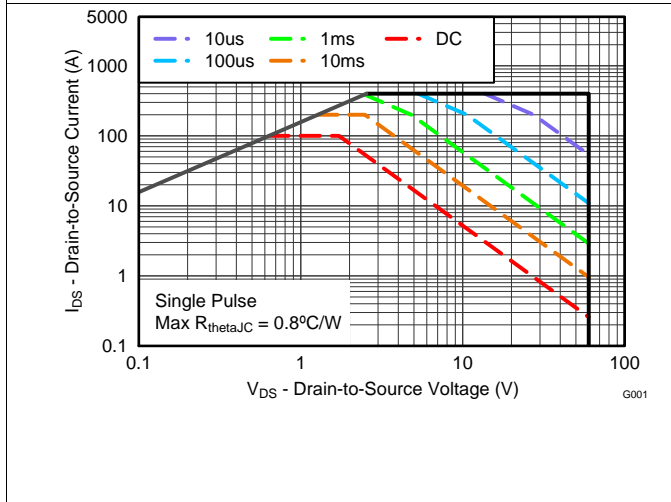

Figure 10. Maximum Safe Operating Area
- Updated the safe operating area in Figure 10. .... **7**